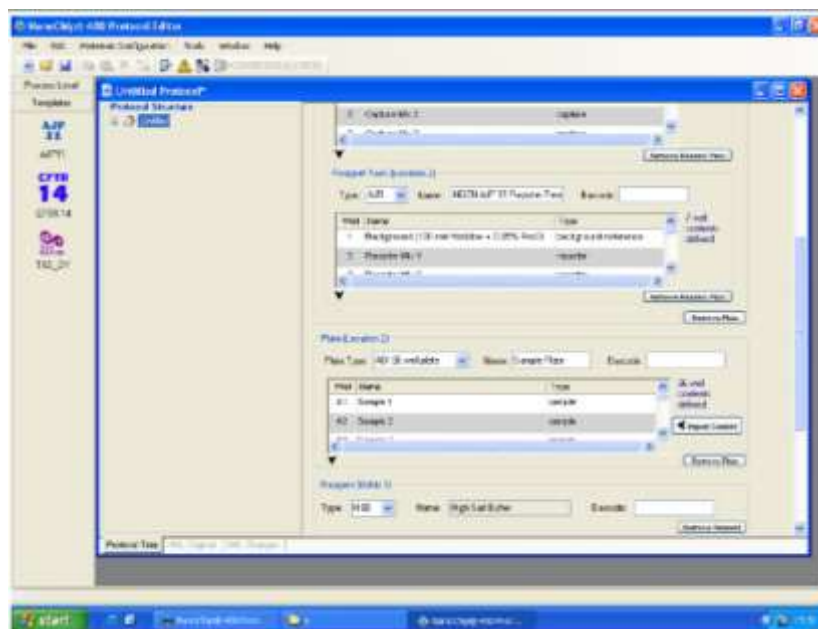

Figure 5. Protocol Editor Screen
7. Click on the run name you entered earlier (located under protocol structure), if no name was inserted it will appear as "untitled". **Scroll to 'Plate location 2'** (See figure 5). Here you can either write down your samples names or import it from an excel sheet. LIS connection is also optional.